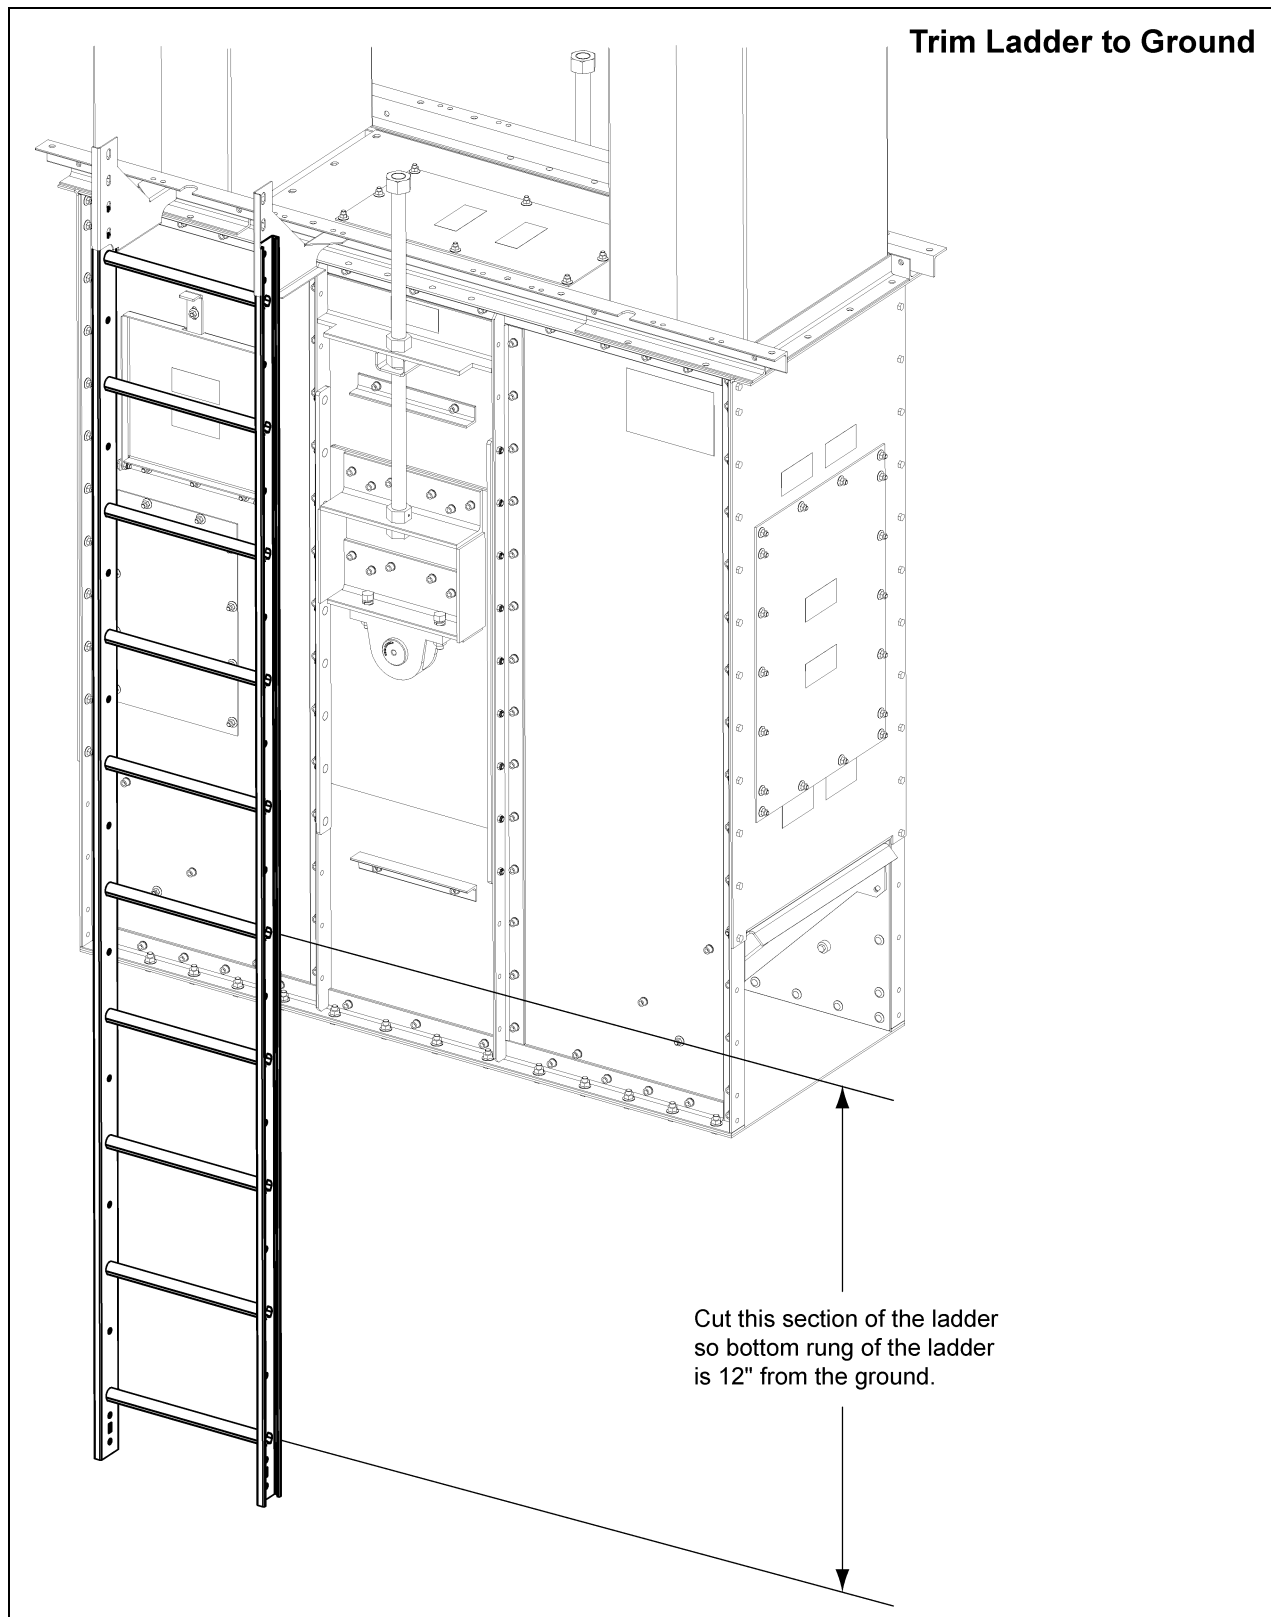

Figure 6G Boot Ladder Section
1. Trim a 10' ladder section so the first ladder rung is 12" from the ground when installed to the ladder bracket. (See Figure 6G.)